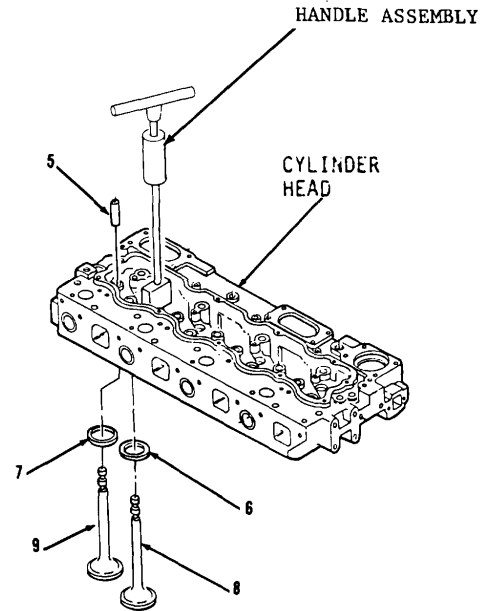

Figure 3-66.
1. Inspect eight guides (5, Figure 3-66). Replace if cracked, broken, grooved, scored or has a worn bore diameter exceeding 0.3772 inch.
2. Using suitable driver and hammer, remove bad guides (5) from bottom of cylinder head.
3. Inspect four exhaust inserts (6) and intake inserts (7). Replace if cracked, broken, burned or pitted. Using extractor, remove four intake inserts (7) along with handle assembly.